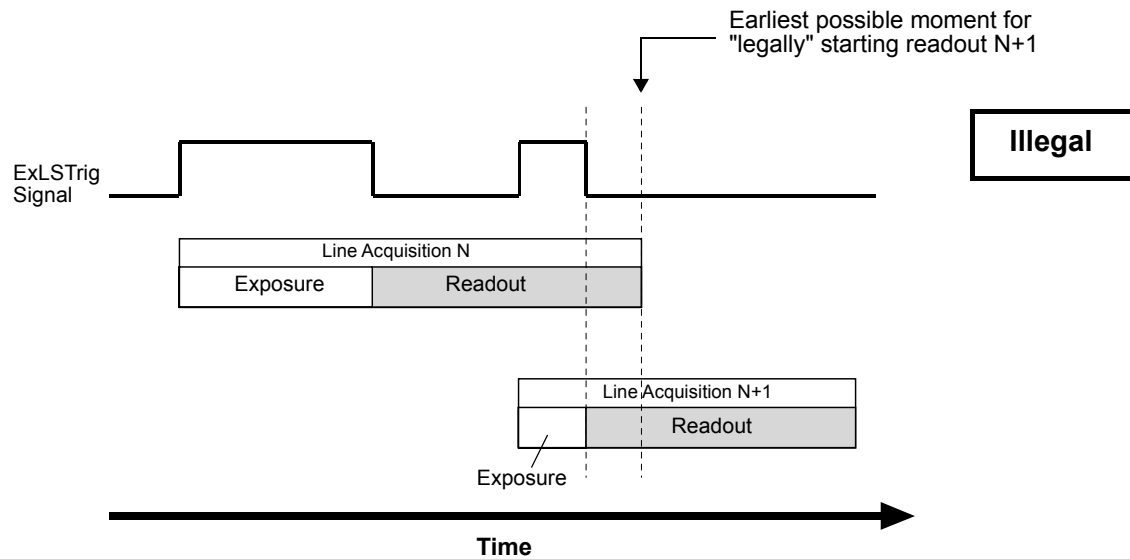
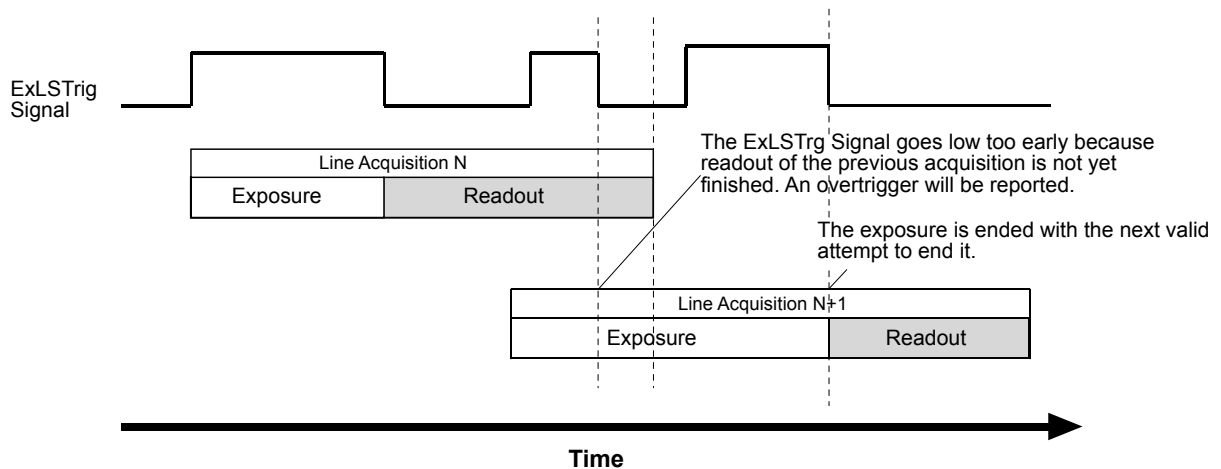

Fig. 42: Exposure N+1 Illegally Ends Before Readout of the Preceding Line Acquisition N Has Ended; Applies to Trigger Width Exposure Mode Only
Fig. 43: Extension of Exposure N+1 After the Illegal Attempt of Ending It Too Early; Applies to Trigger Width Exposure Mode Only
Certain attempts of triggering overlapped line acquisition are illegal and do not result in line acquisitions: When a line start trigger signal attempts an illegal line acquisition the trigger signal will be ignored and, accordingly, no line acquisition will be performed. In addition, the trigger signal will be reported as an overtrigger (see also Section 10.15 on page 208). Illegal triggering and impossible overlaps are shown in Fig. 41 on page 113 and Fig. 42 on page 114.
The exposure overhead (see Fig. 41 on page 113) is part of every exposure process. For simplicity, it is omitted from the other figures illustrating exposure and readout (see, for example, Fig. 42 on page 114).
- The line start trigger goes low to end the exposure for line acquisition N+1 before readout for acquisition N has ended (premature exposure end; see Fig. 42 on page 114). This would result in the illegal overlap of two readouts (in trigger width exposure mode only).
When the line start trigger has illegally gone low to end the exposure for line acquisition N+1 before readout for acquisition N has ended (in trigger width exposure mode; see Fig. 42), the camera will behave as shown in Fig. 43: The camera will extend the exposure and end it when the next valid trigger for ending exposure occurs.